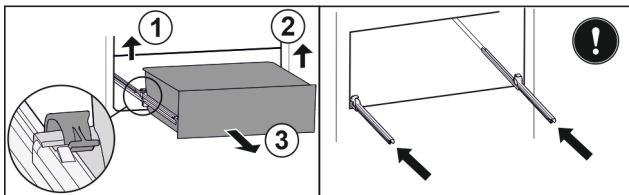

Fig. 180
- ▶ Lift left clamp and simultaneously pull drawer forwards on the left. Fig. 180 (1)
- ▶ Lift right clamp and simultaneously pull drawer forwards on the right. Fig. 180 (2)
- ▶ Remove drawer to the front. Fig. 180 (3)